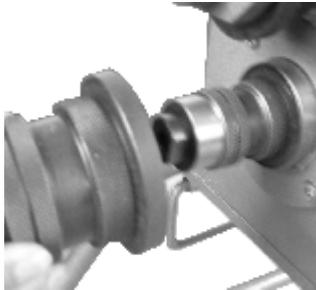
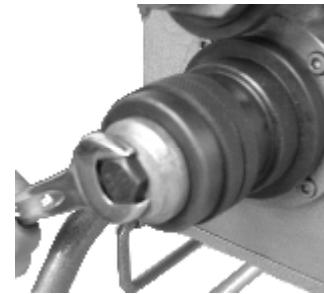

Fig.17
Fig.19
1).When process the pipes under D168mm,You can use roller shaft directly (see Fig.17) , When process the pipes upon D219mm,please install the knurl wheel on the roller shaft (See Fig. 17 -Fig. 19).